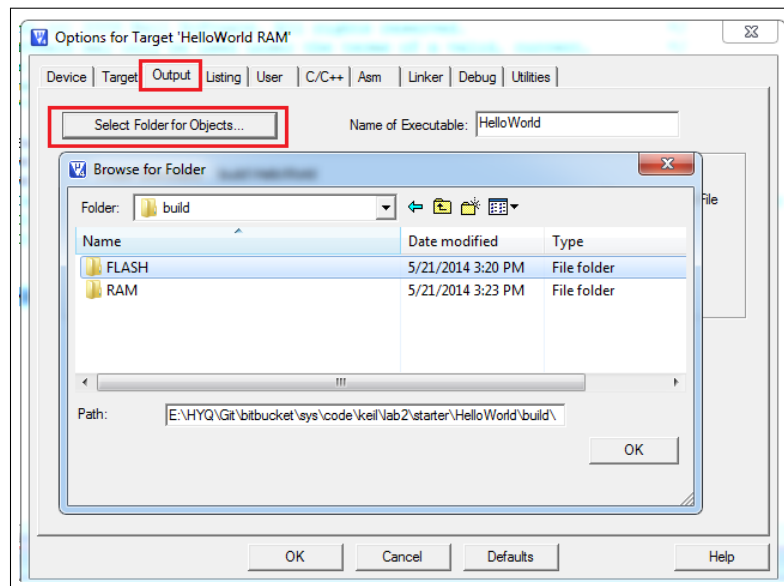

Figure 5.12: Keil IDE: Selecting Output Folder
- Click the Target Option button and select the Output tab. Click the “Select the Folders for Objects” button to bring up the Browse for Folder dialogue box (see Figure 5.12). You will chose the FLASH folder if you want to build the HelloWorld SIM target and RAM folder if you want to build the HelloWorld RAM target. Similarly, you could select the Listing tab to specify the location of the listing files.